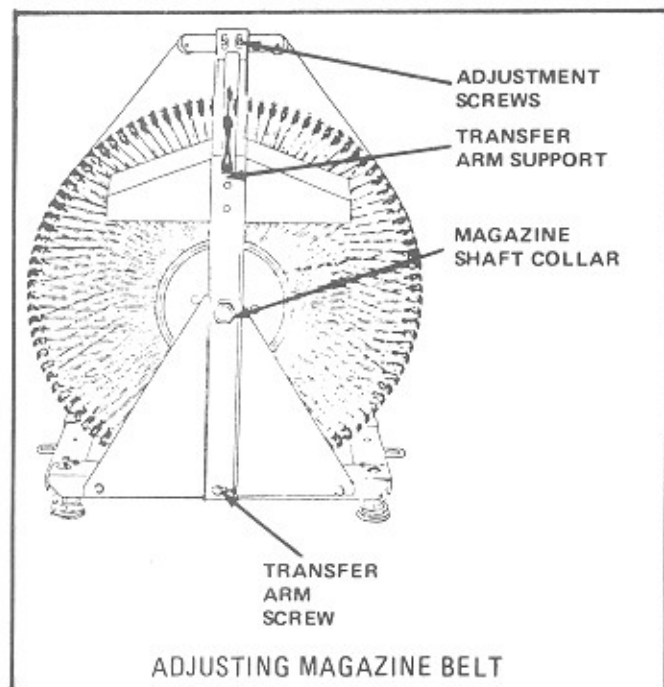

Figure 3-14. Magazine Belt Adjustment
1. Loosen two adjustment screws shown in Figure 3-14.